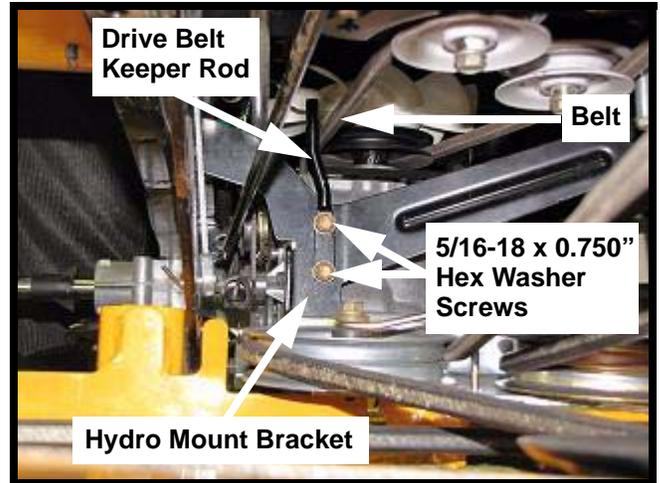

FIGURE 3
9. Install the revised, (taller) **747-05444A** Drive Belt Keeper Rod over the hydro mount bracket with the depressed side facing outward. See Figure 1 and Figure 3.
10. Secure with the two (2) 5/16-18 x 0.750" hex washer screws and tighten securely. See Figure 3.
11. The revised, (taller) **747-05444A** Drive Belt Keeper Rod is positioned to the out side of the drive belt. See Figure 3.